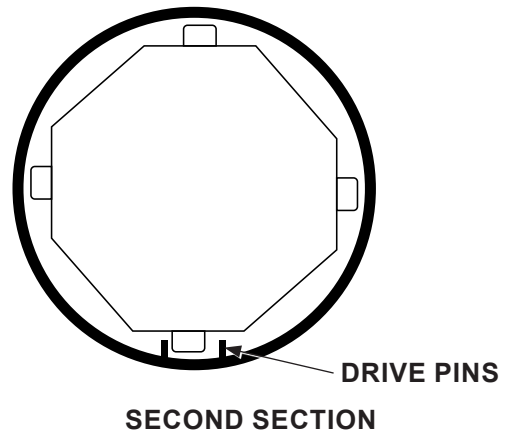

Figure 4
- b. Install a second section with drive pins rotated 180° from those on the first section (figure 4).